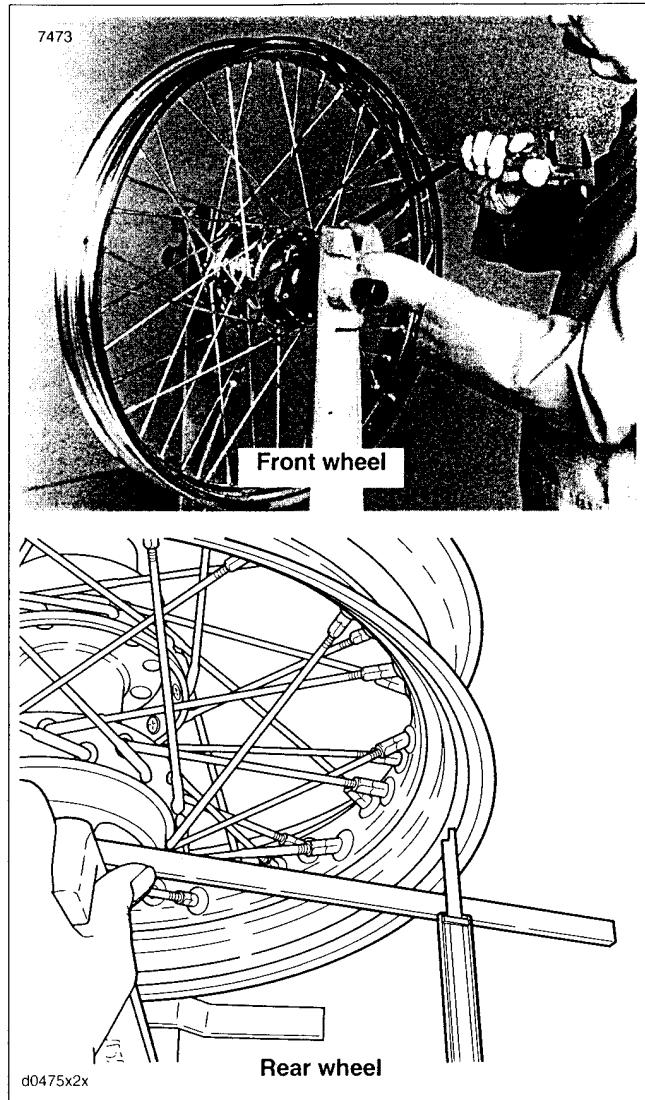

Figure 2-50. Check Laced Hub Offset Dimension
- See Figure 2-50. Install truing arbor in wheel hub and place wheel in WHEEL TRUING STAND (Part No. HD-99500-80). Tighten arbor nuts so hub will turn on its bearings.